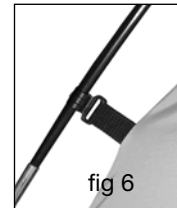

fig 6
5. **Start at the bottom and attach all the clips** to the poles to create a freestanding tent. Place it in the desired location. See fig 6.